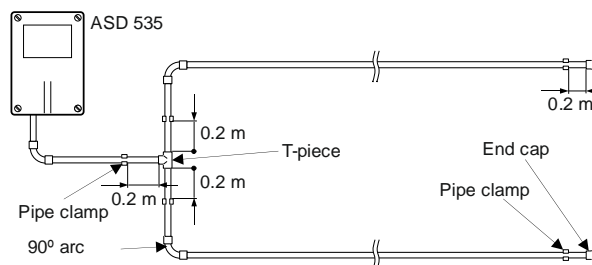

Fig. 25 90° bend, branching point
- Beginning at the branching points of the sampling pipe, a distance of at least 0.2 m must be maintained from the T-piece to the pipe clamps (Fig. 25).
- For changes of direction in space surveillance installations, it is advisable to use 90° bends rather than 90° angles (Fig. 25). See Sec. 4.4.2.